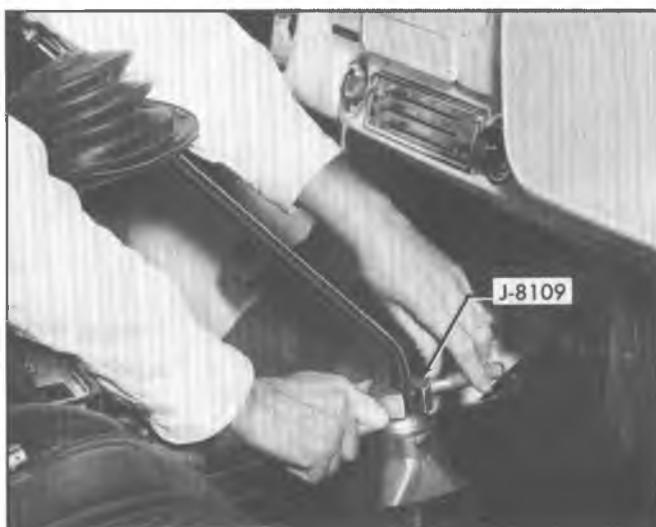

Fig. 26—Removing Transmission Gearshift Lever
4. Slide boot and retainer up on shift lever and remove the transmission shift lever using Tool J-8109 as shown in Figure 26.
3. Remove attaching screws from transmission shift lever boot retainer. Slide boot and retainer up lever and remove transmission shift lever using Tool J-8109 as shown in Figure 26.